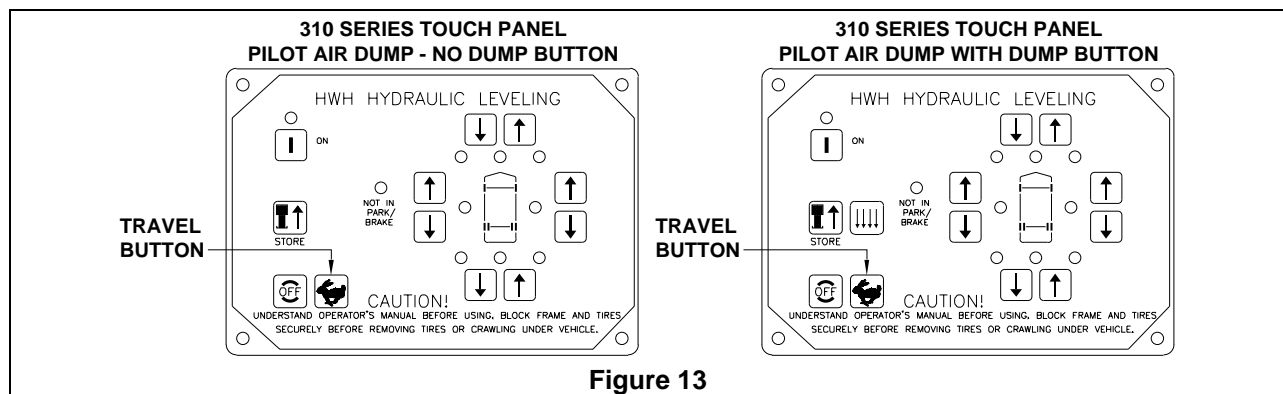

Figure 13
**Electrical functions:** The 310 Series system uses the touch panel buttons to control relays in the control box to operate the hydraulic solenoid valves and the pump relay. The touch panels have an ON button, an OFF button, four UP ARROW (extend jacks) buttons and four DOWN ARROW (retract jacks) buttons. An UP or DOWN ARROW button will always operate 2 jacks at a time. The touch panel has a STORE button. This button will retract all four jacks at the same time. If the system has an HWH® controlled air dump system, the panel will have a DUMP button. If the system uses a pilot air dump system, the panel will have a button with a rabbit symbol. This is the travel button. Touch panels used with pilot air dump systems may or may not have a DUMP button. Pilot air dump touch panels without a DUMP button will automatically put the air dump system in the dump mode when the ON button is pushed. Refer to **FIGURE 13** to view a “RABBIT” (travel) button.